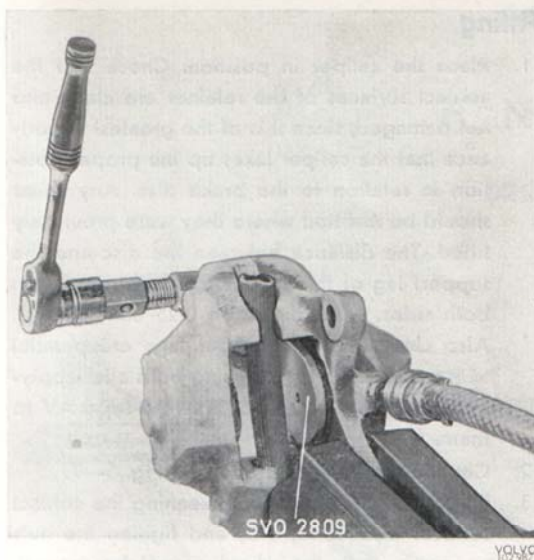

Fig. 5—9. Removing the piston
2. Remove the retaining rings and the rubber dust covers. Place the caliper in a vice, see Fig. 5—9. Fit SVO 2809 and press one of the pistons down to the bottom. Fit a suitable bleeder connection, see Fig. 5—9, to the caliper. Place a piece of hose in the caliper and blow out the other piston. The pressure required should go up to about 7 kp/cm2 (100 p.s.i.). Remove the piston.